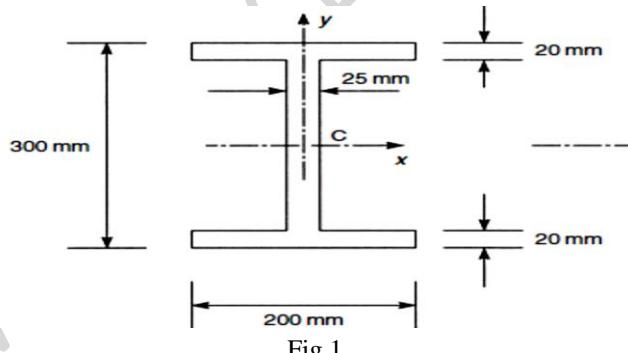

Fig.1
b) The cross-section of a beam has the dimensions shown in Fig.1. If the beam is subjected to a negative bending moment of 100 kN m applied in a vertical plane, determine the distribution of direct stress through the depth of the section.